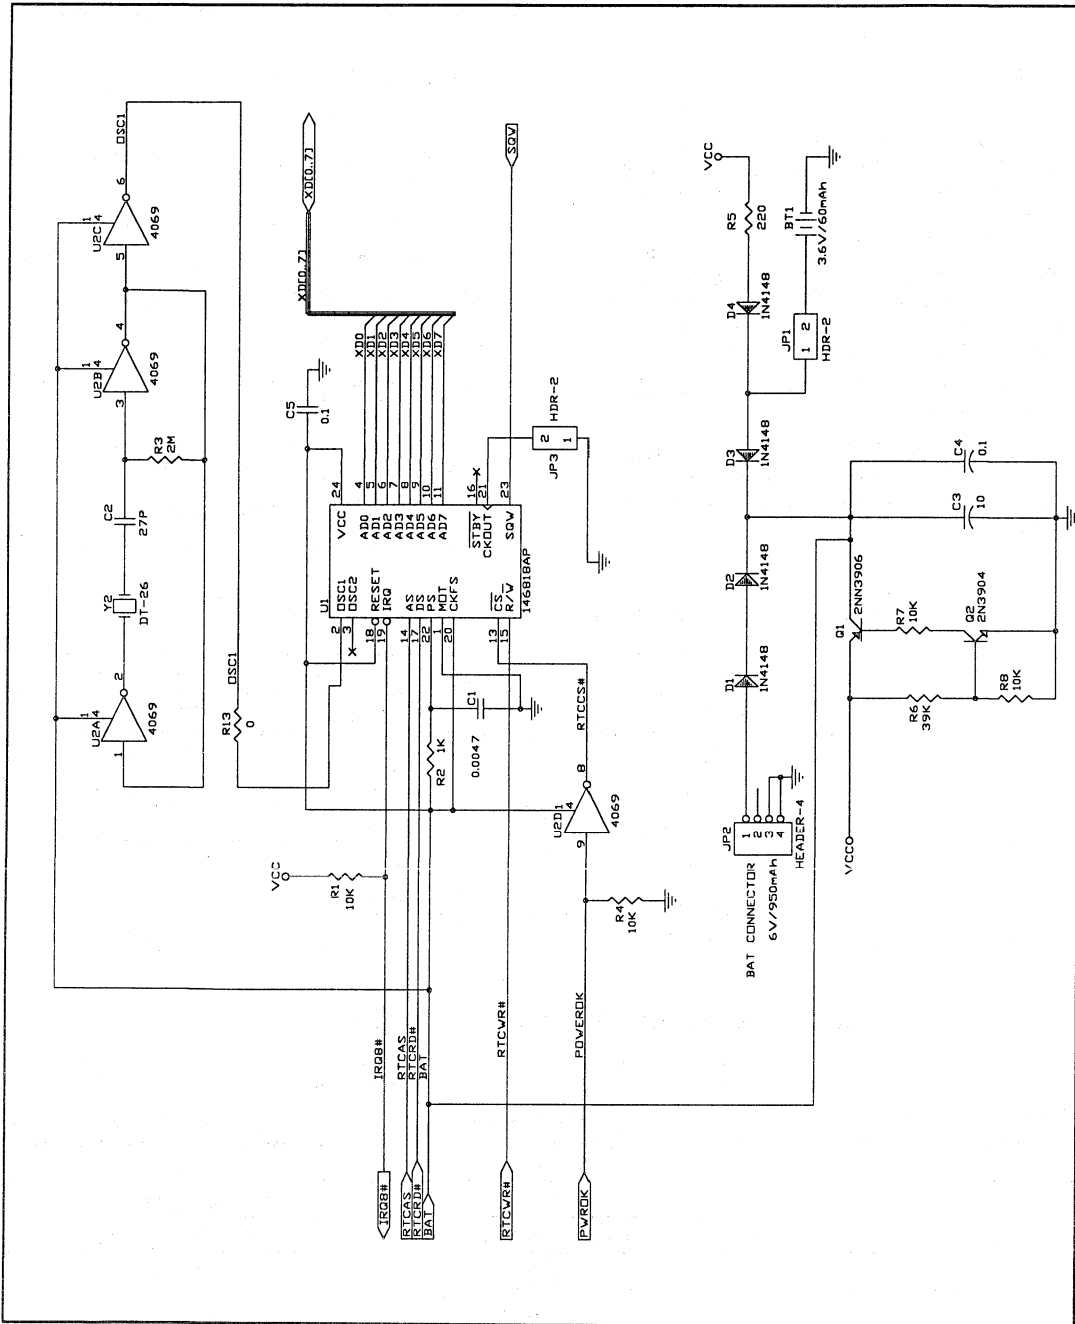

Figure 1. MC146818A ISA (PC/AT) Example
**Table 3. MC146818A ISA (PC/AT) Parts List (Figures 1 and 3)**